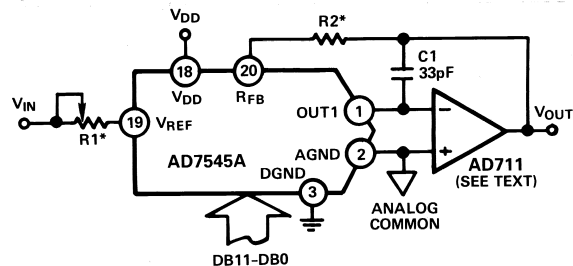
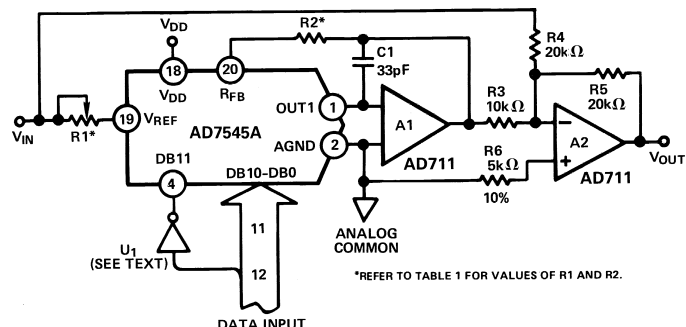
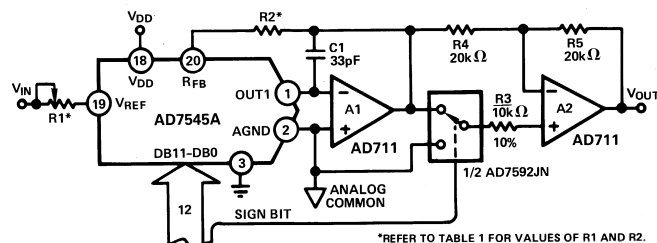
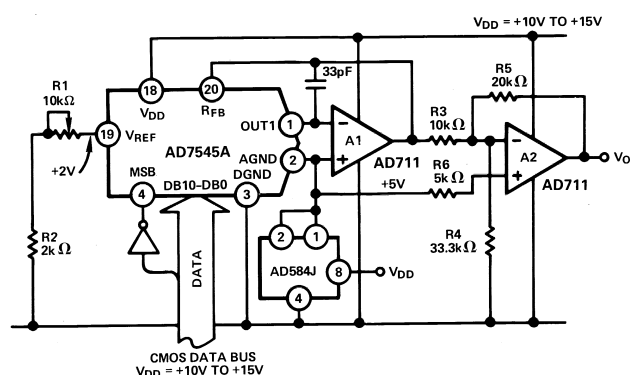

Figure 4. Unipolar Binary Operation
Figure 5. Bipolar Operation (Twos Complement Code)
Figure 6. 12-Bit Plus Sign Magnitude Converter
Figure 10. Single Supply “Bipolar” 2s Complement D/A Converter
Figures 4 and 5 show simple unipolar and bipolar circuits using the AD7545A. Resistor R1 is used to trim for full scale. The L, C, U grades have a guaranteed maximum gain error of ±1 LSB at +25°C, and in many applications it should be possible to dispense with gain trim resistors altogether. Capacitor C1 provides phase compensation and helps prevent overshoot and ringing when using high speed op amps. Note that all the circuits of Figures 4, 5 and 6 have constant input impedance at the VREF terminal.
The circuit of Figure 4 can either be used as a fixed reference D/A converter so that it provides an analog output voltage in the range 0 to -VIN (note the inversion introduced by the op amp) or VIN can be an ac signal in which case the circuit behaves as an attenuator (2-Quadrant Multiplier). VIN can be any voltage in the range -20 ≤ VIN ≤ +20 volts (provided the op amp can handle such voltages) since VREF is permitted to exceed VDD. Table II shows the code relationship for the circuit of Figure 4.
Table II. Unipolar Binary Code Table for Circuit of Figure 4
Figure 5 and Table III illustrate the recommended circuit and code relationship for bipolar operation. The D/A function itself uses offset binary code and inverter U1 on the MSB line converts two's complement input code to offset binary code. If appropriate, inversion of the MSB may be done in software using an exclusive-OR instruction and the inverter omitted. R3, R4 and R5 must be selected to match within 0.01%, and they should be the same type of resistor (preferably wire-wound or metal foil), so that their temperature coefficients match. Mismatch of R3 value to R4 causes both offset and full-scale error. Mismatch of R5 to R4 and R3 causes full-scale error.
Table III. Twos Complement Code Table for Circuit of Figure 5
Figure 6 and Table IV show an alternative method of achieving bipolar output. The circuit operates with sign plus magnitude code and has the advantage that it gives 12-bit resolution in each quadrant compared with 11-bit resolution per quadrant for the circuit of Figure 5. The AD7592 is a fully protected CMOS change-over switch with data latches. R4 and R5 should match each other to 0.01% to maintain the accuracy of the D/A converter. Mismatch between R4 and R5 introduces a gain error. Refer to Reference 1 (supplemental application material) for additional information on these circuits.
Table IV. 12-Bit Plus Sign Magnitude Code Table for Circuit of Figure 6
**Output Offset:** CMOS D/A converters such as Figures 4, 5 and 6 exhibit a code dependent output resistance which, in turn, can cause a code dependent error voltage at the output of the amplifier. The maximum amplitude of this error, which adds to the D/A converter nonlinearity, depends on VOS, where VOS is the amplifier input offset voltage. To maintain specified accuracy with VREF at 10 V, it is recommended that VOS be no greater than 0.25 mV, or  $(25 \times 10^{-6}) (V_{REF})$ , over the temperature range of operation. Suitable op amps are AD517 and AD711. The AD517 is best suited for fixed reference applications with low bandwidth requirements: it has extremely low offset (150 μV max for lowest grade) and in most applications will not require an offset trim. The AD711 has a much wider bandwidth and higher slew rate and is recommended for multiplying and other applications requiring fast settling. An offset trim on the AD711 may be necessary in some circuits.
**Temperature Coefficients:** The gain temperature coefficient of the AD7545A has a maximum value of 5 ppm/°C and a typical value of 2 ppm/°C. This corresponds to worst case gain shifts of 2 LSBs and 0.8 LSBs respectively over a 100°C temperature range. When trim resistors R1 and R2 (such as in Figure 4) are used to adjust full-scale range, the temperature coefficient of R1 and R2 should also be taken into account. The reader is referred to Analog Devices Application Note "Gain Error and Gain Temperature Coefficient to CMOS Multiplying DACs," Publication Number E630c-5-3/86.
The circuits of Figures 4, 5 and 6 can all be converted to single supply operation by biasing AGND to some voltage between  $V_{DD}$  and DGND. Figure 10 shows the 2s Complement Bipolar circuit of Figure 5 modified to give a range from +2 V to +8 V about a “pseudo-analog ground” of 5 V. This voltage range would allow operation from a single  $V_{DD}$  of +10 V to +15 V. The AD584 pin-programmable reference fixes AGND at +5 V.  $V_{IN}$  is set at +2 V by means of the series resistors R1 and R2.